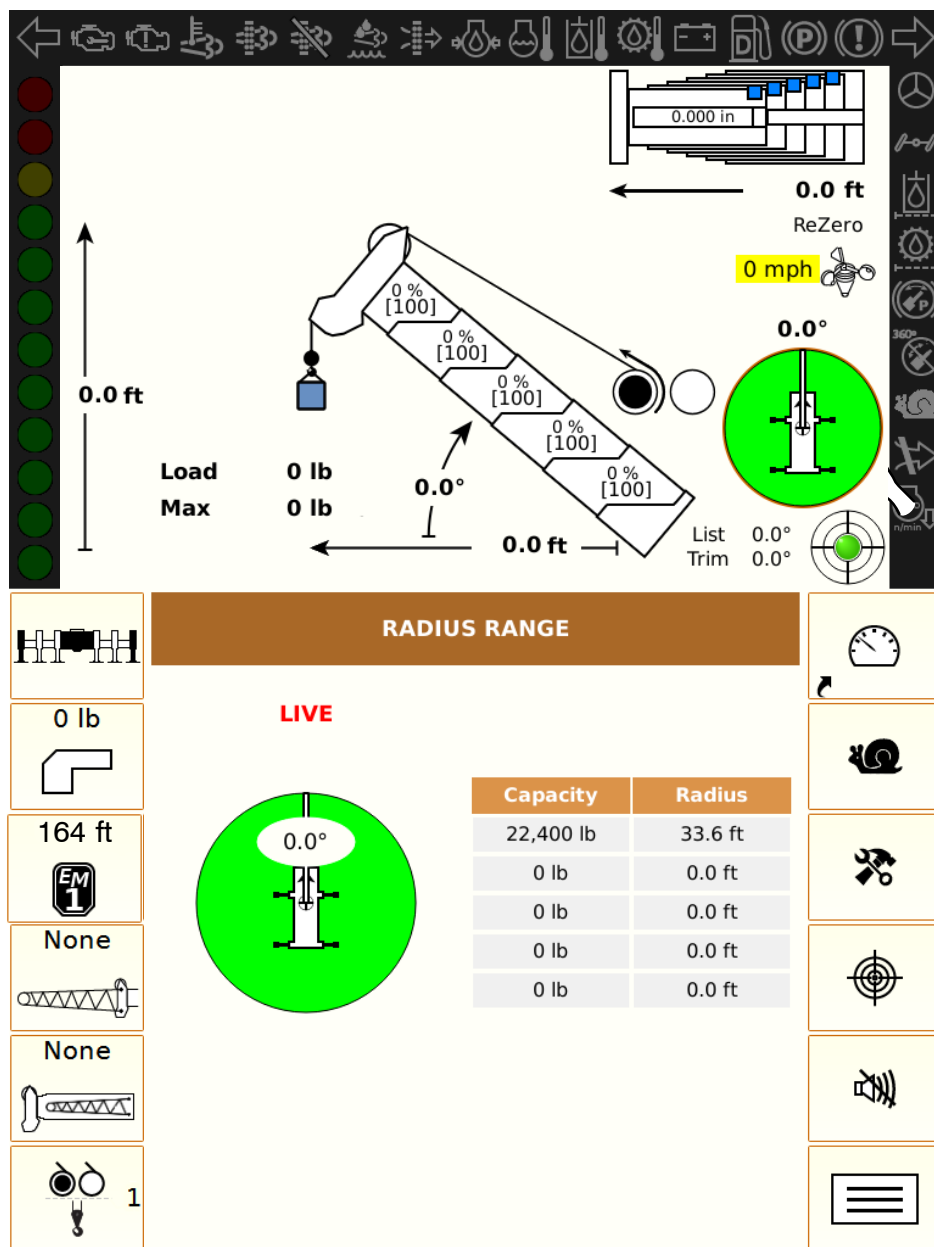

Figure 1–86
The following is a description of the RCL bar graph indicators on the Pulse Crane Control System Display. Refer to Figure 1–85.
Note: System may be equipped with an overhead RCL light bar and/or an external light bar which operates similarly to the RCL light bar on the Pulse Crane Control System Display. Refer to Figure 1–84.
1. Press the Working Area Display  on the RCL Working Screen. Refer to Figure 1–86.
The following is a description of the Pulse Feature Buttons to the right of the Pulse Feature And RCL Configuration Area. The Pulse Feature Buttons can be used to serve a quick function or directly access menus and screens from any screen. Refer to Figure 1–87.